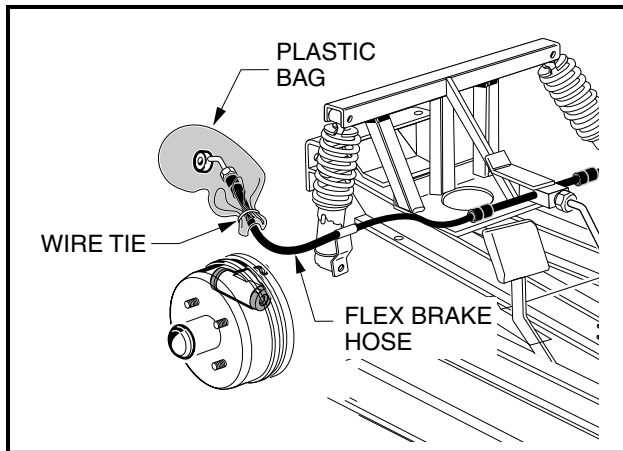

Figure 6a-17 Front Brake Hose With Plastic Bag
- Remove the banjo bolt (16) and copper washers (17) from the brake cluster front hose assembly (Figure 6a-3, Page 6a-4).
- To avoid spilling brake fluid, lift the hose above the brake cluster assembly and place a plastic bag over the hose fitting to keep dirt and debris from entering the hydraulic brake system (**Figure 6a-17, Page 6a-21**).
- Using a Torx #T-40 driver, remove the four Torx-head bolts (18), washers (19) and lock nuts (20) that secure the brake cluster and back plate assembly to the front spindle plate (**Figure 6a-3, Page 6a-4**).
- Use only new hardware for this step. Install the brake cluster back plate to the front spindle flange using four Torx-head bolts (18), washers (19) and lock nuts (20). Using a torque wrench with Torx #T-40 driver, tighten all four bolts to 76 in-lb (8.6 N-m) (**Figure 6a-3, Page 6a-4**).
- Install a new banjo bolt (16) and new copper washers (17) to the front brake cluster wheel cylinder (7). Position the elbow of the brake hose toward the rear of the vehicle. Tighten the banjo bolt to 13 ft-lb (17.6 N-m) (**Figure 6a-3, Page 6a-4**).